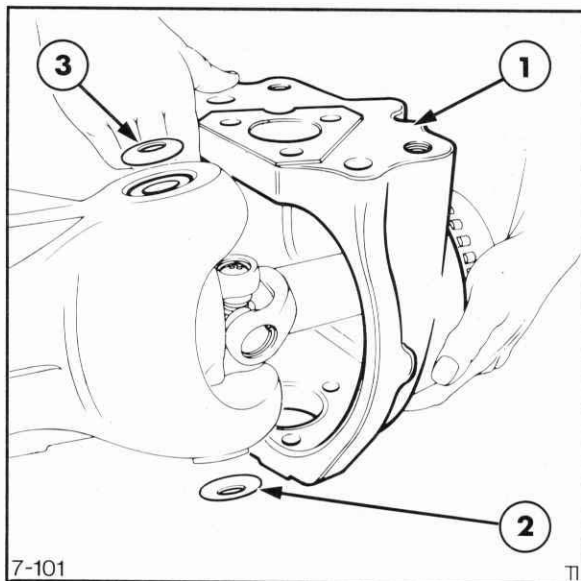

Figure 7-96
6. Carefully ease the hub and swivel casing assembly from the axle center casing, Figure 7-96. Do not allow the axle shaft to be pulled from the center casing.